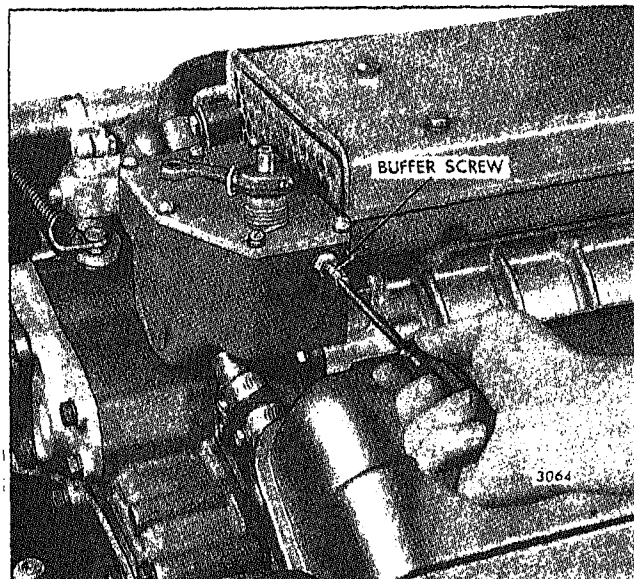

Fig. 8 - Adjusting Buffer Screw
1. With the engine running at normal operating temperature, turn the buffer screw in (Fig. 8) so that it contacts the differential lever as lightly as possible and still eliminates engine roll.